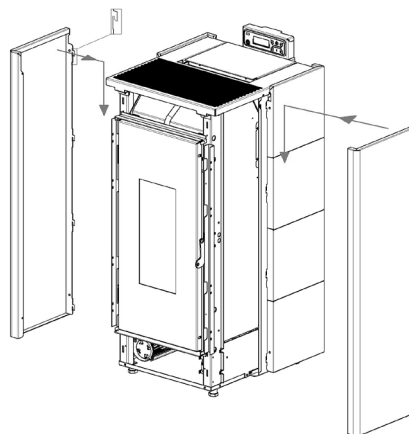

Fig. 38 - Hook the panels
- Hook the coloured panels: fit the front part between the guides on the stove, then hook back through the teeth (see **Fig. 38**).